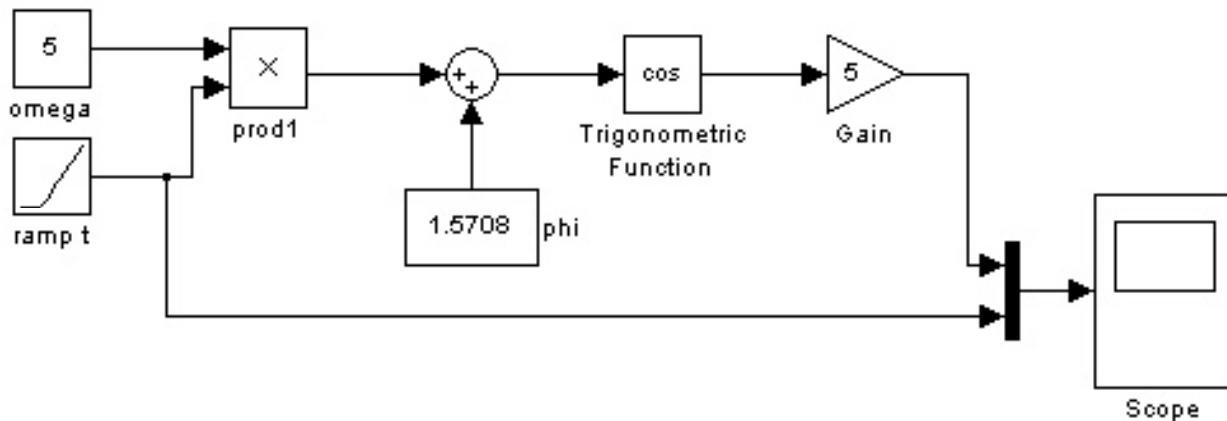

Figure E1-1
2. The next step is to connect these blocks as shown in Figure E1-1.